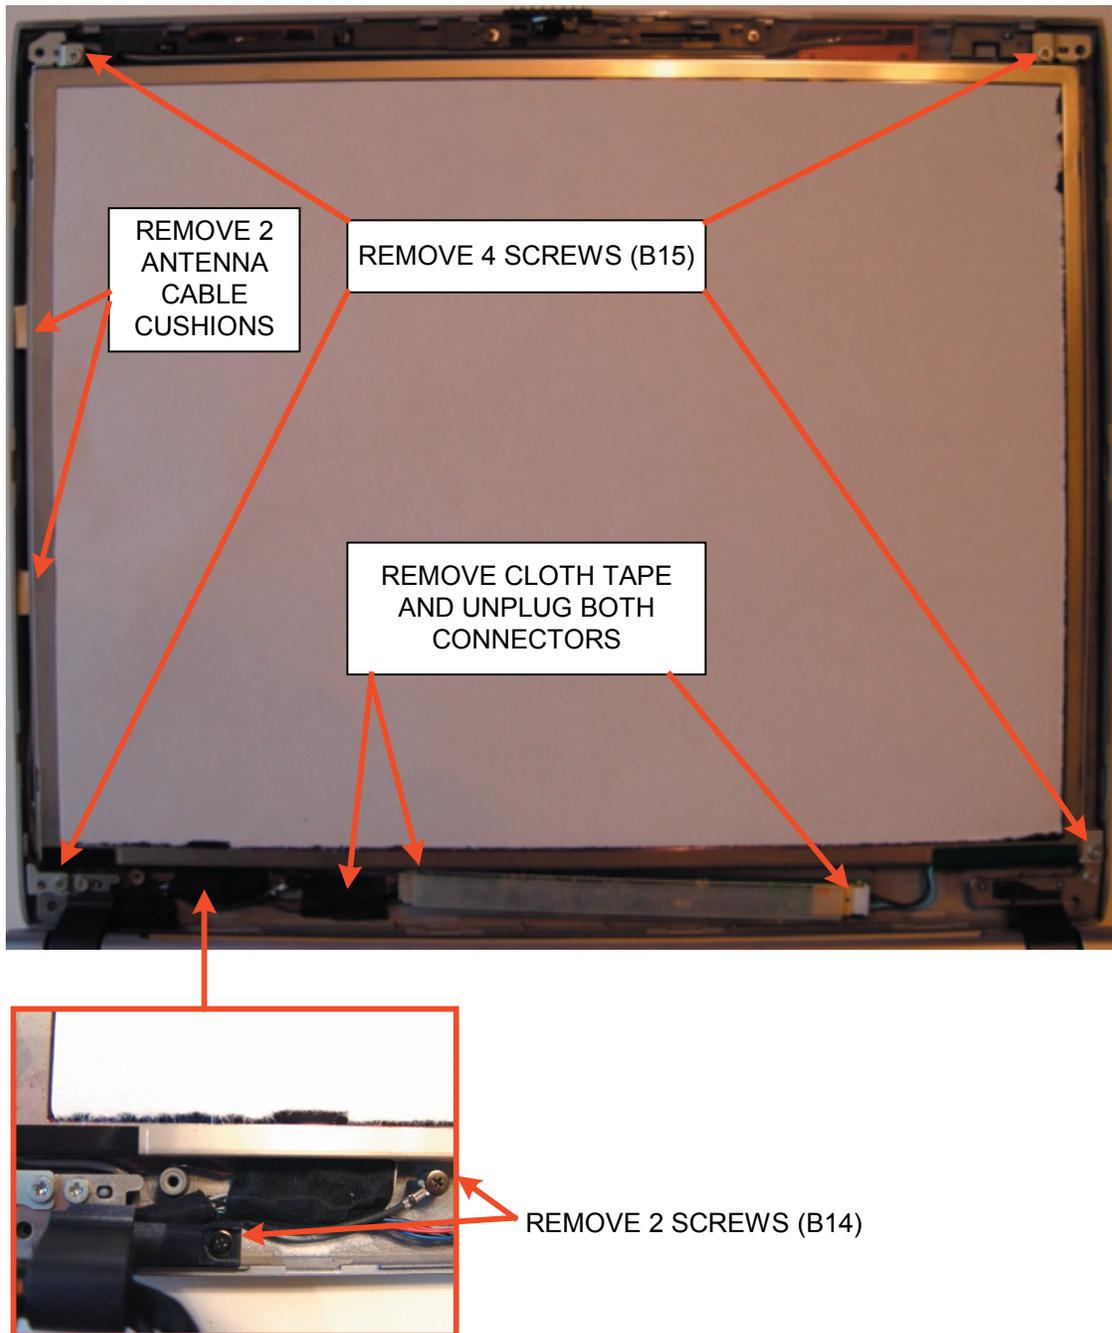

FIGURE 2-26 - LCD PANEL REMOVAL (step 2)
Step 2: Referring to Figure 2-26, remove the 2 antenna cable cushions on the left side. Remove the cloth tape as shown and unplug the connectors at each end of the circuit board. Remove the 2 screws (B14) located in the lower left corner securing the ground wire and hinge cover. Remove 4 screws (B15) at each corner.